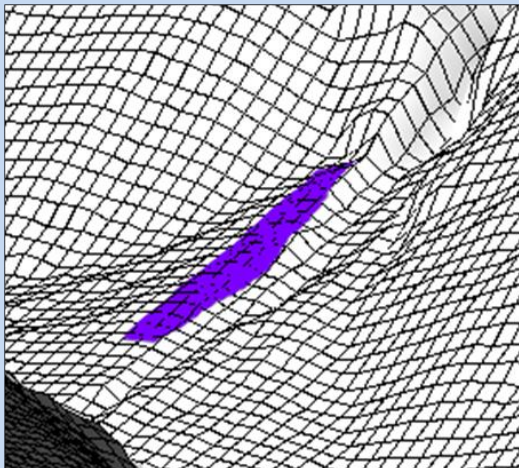

Figure 4-22: Polygon area where a dam is supposed to be built.
- Create a polygon shapefile where a dam is supposed to be built (Figure 4-22).